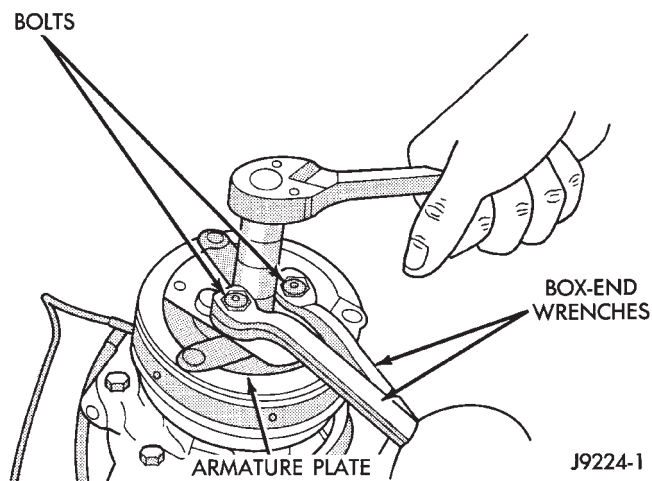

Fig. 1 Compressor Shaft Nut Removal/Installation
- (1) Remove the compressor from the mount.
- (2) To prevent compressor shaft rotation, install 2 (6 mm) bolts, along with 2 wrenches, to the threaded holes in the armature plate (Fig. 1). Remove compressor shaft nut.